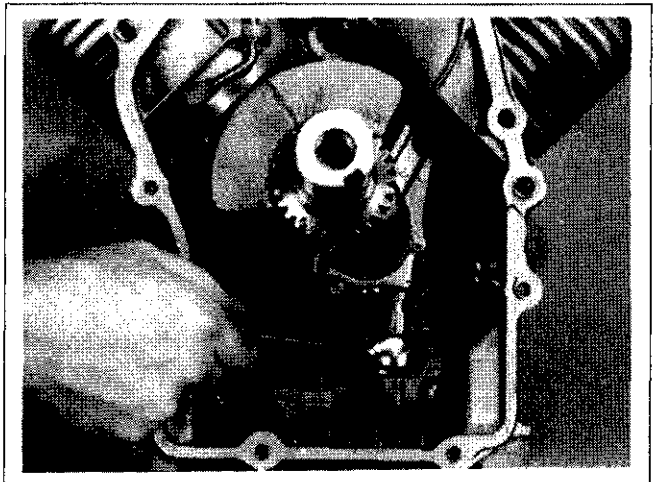

Figure 9-62. Removing Connecting Rod Bolts.
1. Remove the two hex flange screws securing the closest connecting rod end cap. Remove the end cap. See Figure 9-62.